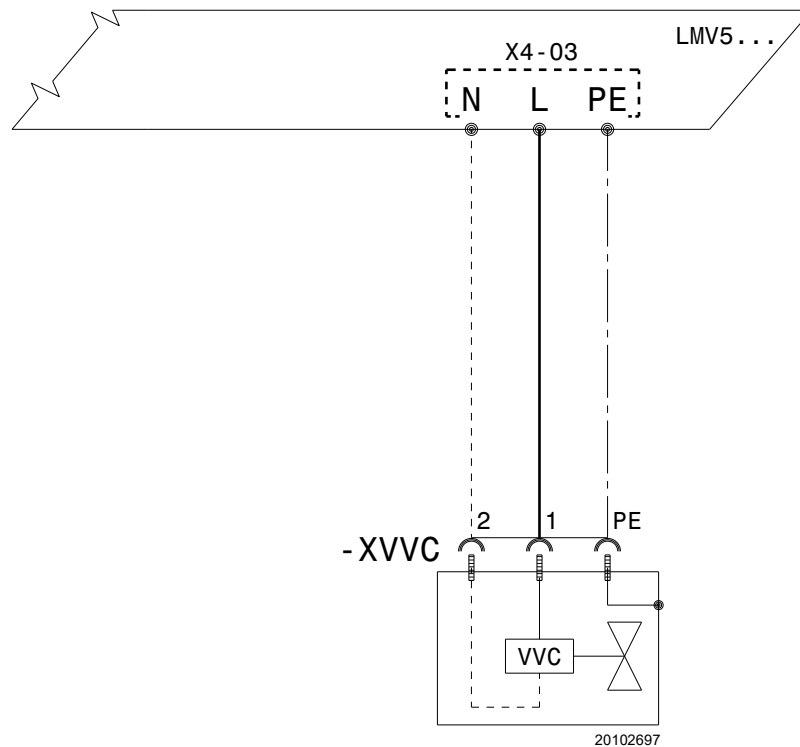

Fig. 16
To carry out the electrical wiring proceed as follows (Fig. 16):
- Connect the power supply of the valve, via the connection supplied with the kit, to the terminals of the connector X4-03 of the LMV5 flame control...(Fig. 16);